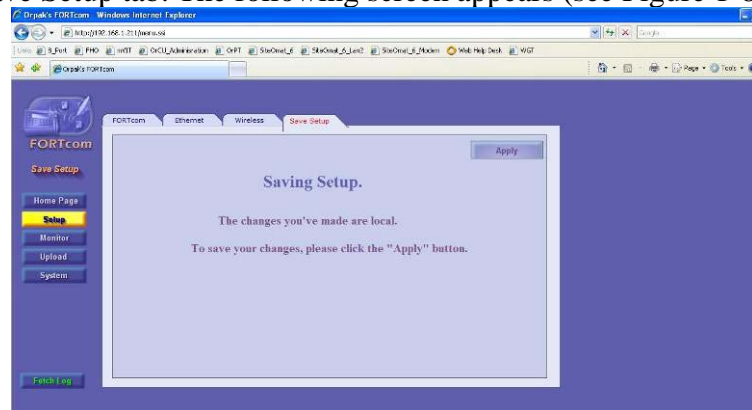

Figure 1-8.– FortCOM Web Site – Save Setup Screen
10. Select the Save Setup tab. The following screen appears (see Figure 1-8)